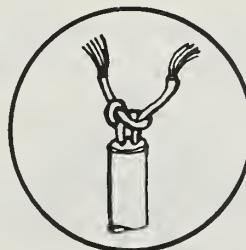

Fig. 4
4. Tie Underwriters' knot. (Fig. 4)